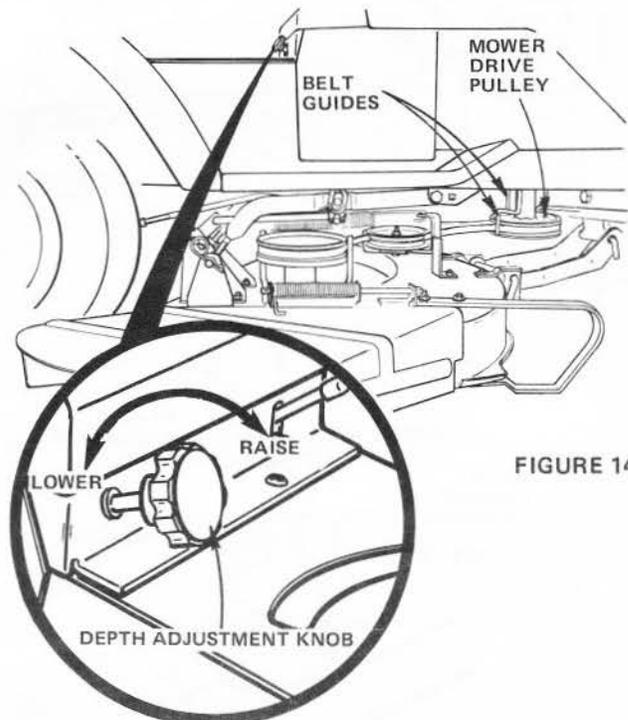
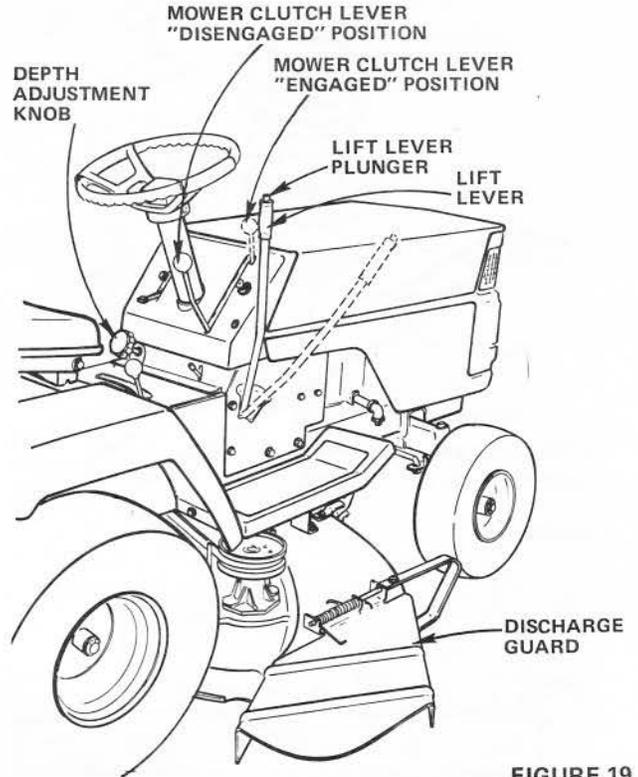

FIGURE 14
FIGURE 19
Your 36" Mower installs without the use of tools. Raise Lift Lever (Fig. 11) to its highest position. Turn Depth Adjustment Knob to lowest position (Fig. 14).
5. Roll Belt over Mower Drive Pulley. Make sure Belt is inside Belt Guides (Fig. 14). See Belt Drive Schematic Decal on Mower Housing.
1. Place Mower Blade Clutch Lever in "DISENGAGED" position (Fig. 19).
5. Use Lift Lever to lower mower into cutting position. Start mowing in the first gear and increase ground speed as conditions will permit. Average cutting height is approximately 2 - 1/2 to 2 - 3/4 inches. Height of cut can be adjusted by means of the Depth Adjustment Knob (Fig. 19). Moving the Knob clockwise (↻) raises the mower (Fig. 14 - Inset). Moving the Knob counterclockwise (↺) lowers the mower.
Your mower has a flip-up Discharge Guard (Fig. 19) for door or gate clearance when held in raised position.